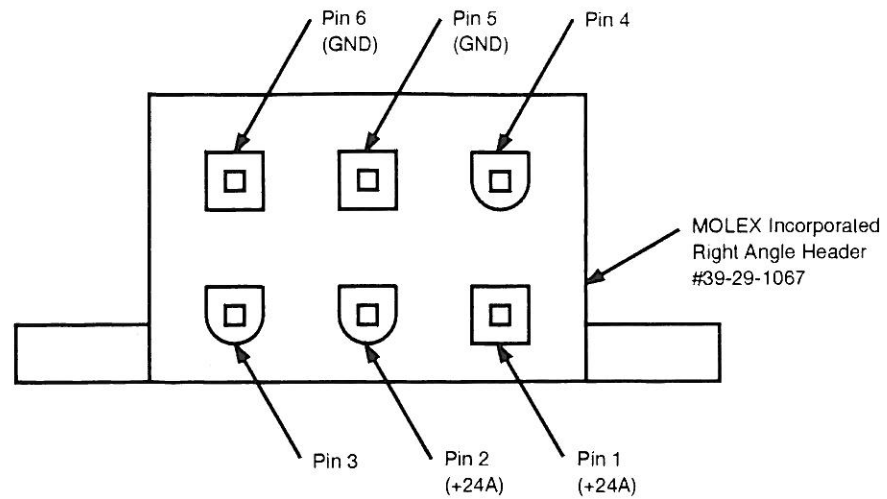

Figure 3-4. Power Supply Voltages to 6-pin Molex Connector
- The customer may order the shelf without any power supplies. The standard power supply voltages should be applied to the 6-pin Molex connector located on the power distribution board (see Figure 3-4).